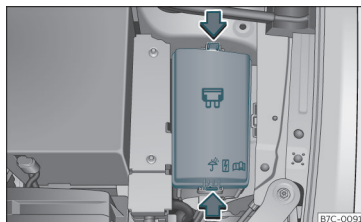

Fig. 45 In the engine compartment: fuse box cover.
- Press the locking tabs to release the fuse box cover >>> Fig. 45.